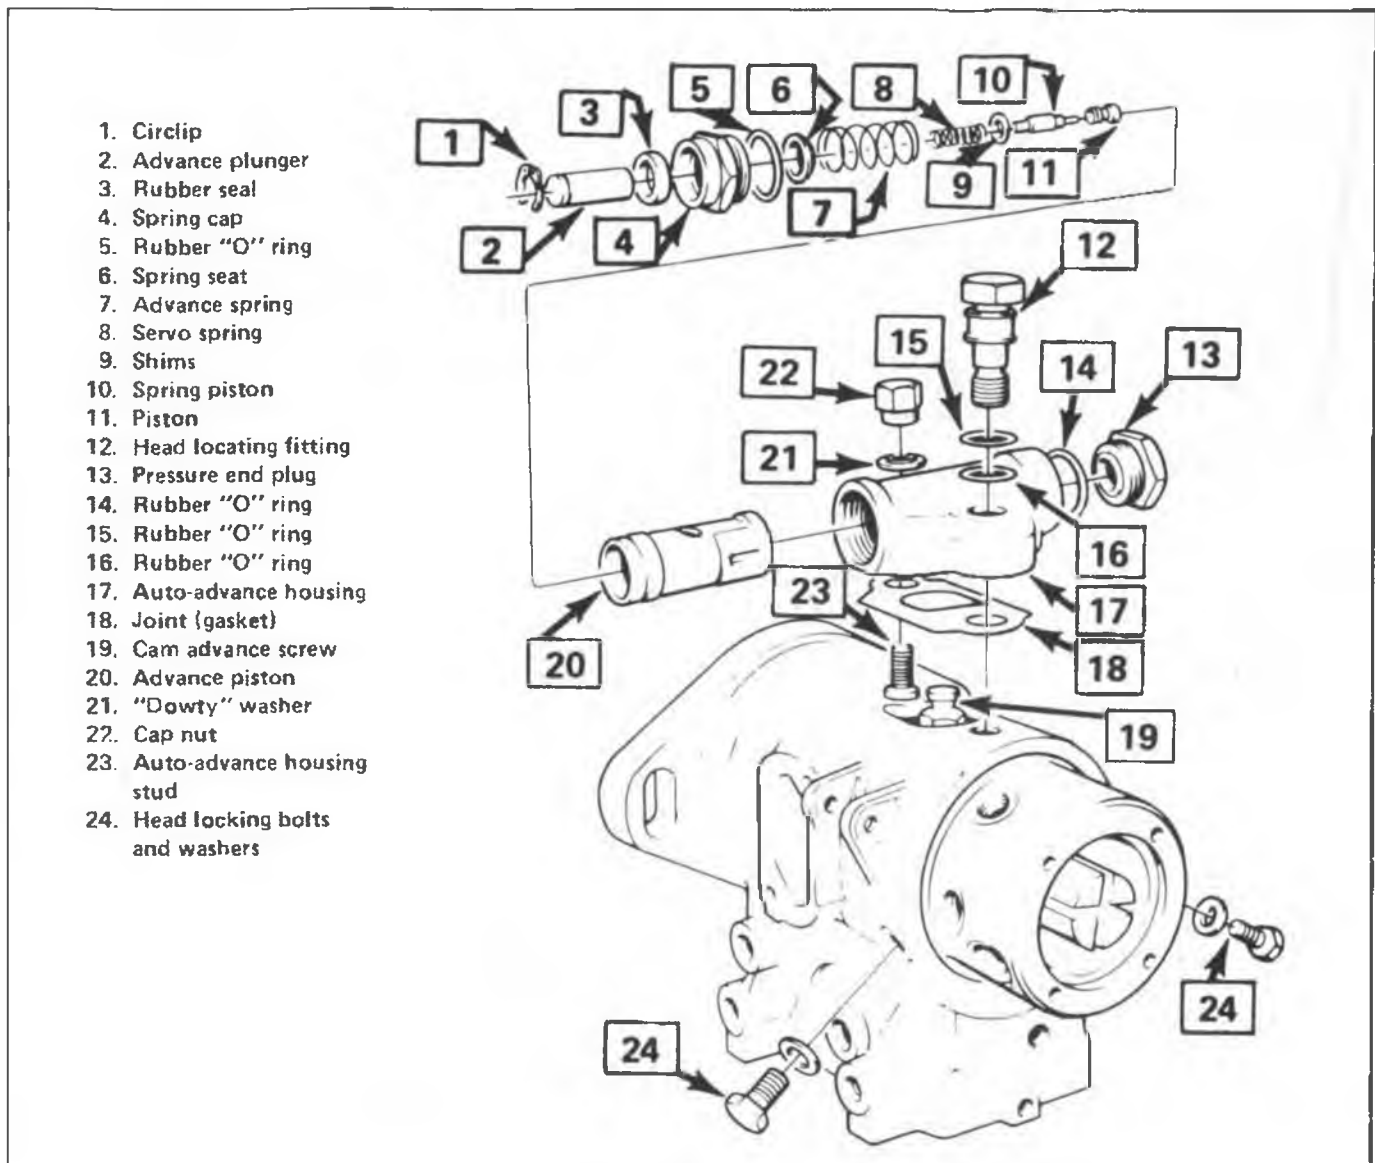

Fig. 3-16 CAV Pump Auto Advance Unit
AUTO-ADVANCE PRESSURE END PLUG SEAL (Fig. 3-16)
AUTO-ADVANCE SPRING CAP SEALS (Fig. 3-16)
AUTO-ADVANCE HOUSING GASKET (Fig. 3-16)
10. Remove the head locating fitting, cap nut and sealing washer from the advance housing. Remove the advance assembly and gasket. Discard all gaskets, "O" rings and sealing washers (Fig. 3-16).
11. Loosen the cam advance screw, then tap the advance screw lightly, if necessary and make certain the cam ring is not binding in the pump housing (Fig. 3-16).
12. Remove the cam screw (Fig. 3-16).
14. Remove the head locking screws and washers. Discard the washers (Fig. 3-16).
10. Align the threaded hole in the cam ring with the opening for the auto-advance unit. Install the advance screw finger tight (Fig. 3-16).